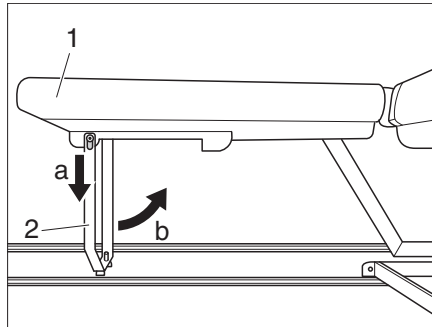

Fig. 6 Fold in the feet
- Press the bed extension (Fig. 6,1) down (a), fold in the feet (Fig. 6,2) (b) and remove the bed extension.